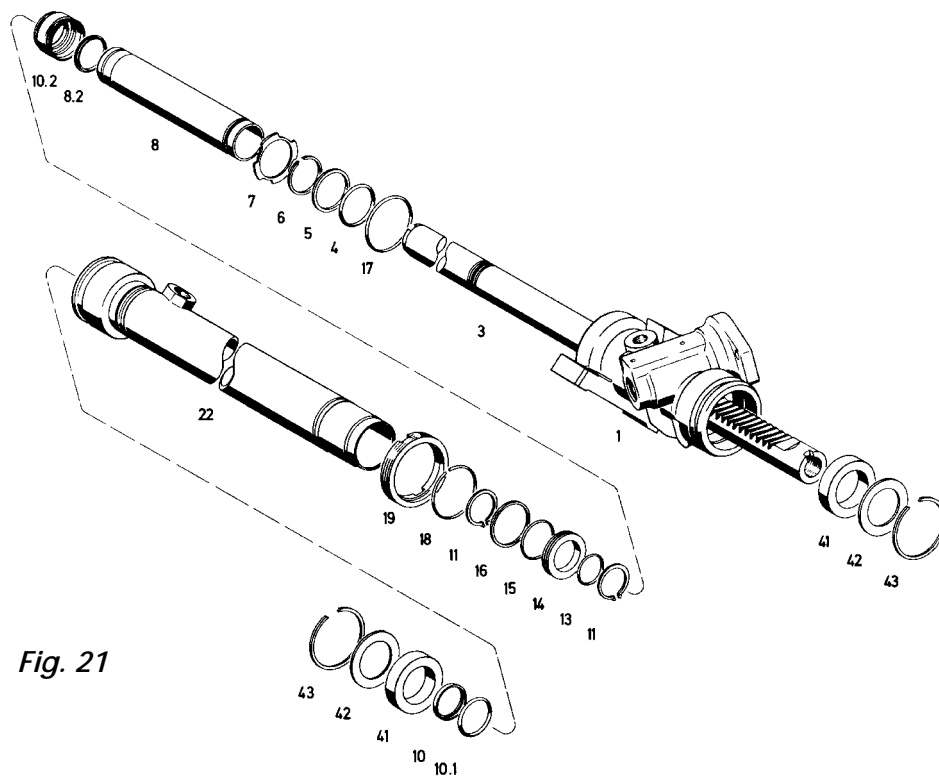

Fig. 21
Slip the threaded ring (19) on the cylindrical tube (22), with the larger recess pointing outward. Engage the snap ring (18) into the radial groove (*Fig. 21*).